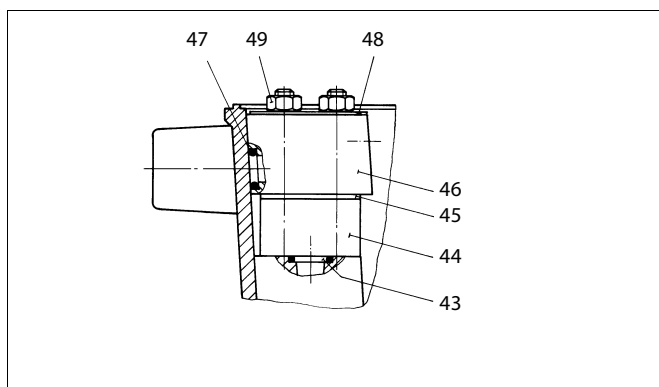

Fig. 9 Mounting the changeover piece
The figures marked on the cam plate (29) are the signal ranges expressed as percentages, for example 0–100 corresponds to 4–20 mA, or 50–100 to 12–20 mA. See Fig. 9.